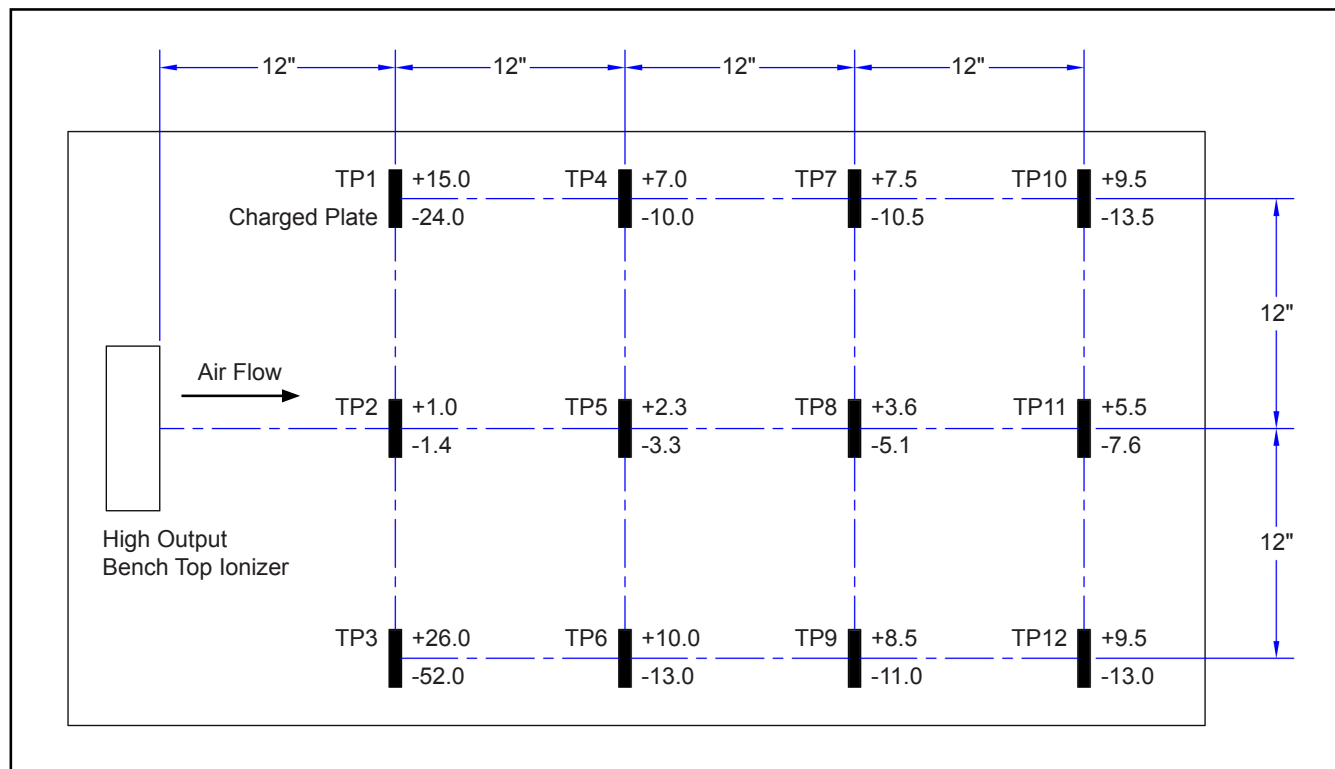

Figure 5. Neutralization (Discharge) Times at 120VAC / 220VAC, 60Hz input
5. Test the neutralization (discharge) time by applying a  $\pm 1,000$  volt charge on the charged plate analyzer. The neutralization (discharge) time should be less than 2 seconds. See figures 5 and 6 for typical discharge times. The required limit per ANSI/ESD S20.20 is "user defined".
The comparative efficiency of bench top ionizers is determined by a standard test published by the ESD Association: ANSI/ESD STM 3.1. Typical positive and negative discharge times (1000V - 100V) measured using this standard are shown in Figures 5 and 6. The performance of the ionizer was measured with the unit positioned as shown, with the fan speed on high and without a filter.
### Balance (offset voltage) at 12" in front of Ionizer (see Figures 5 and 6)